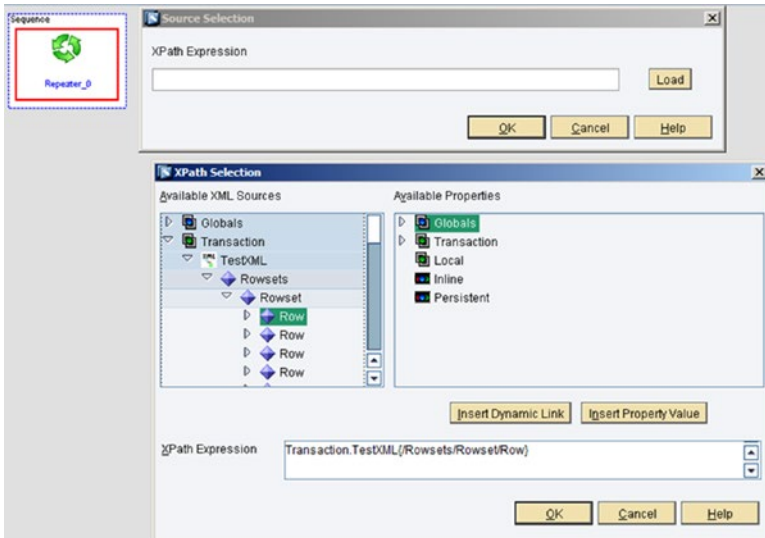

Figure 6-40. Repeater action block
- Repeater action block:* This action block is used to repeat on the XML node, the input we provide as the XPATH, which is repeating in the XML. The output fetches the value of the child nodes while repeating on the particular node. See Figure 6-40.